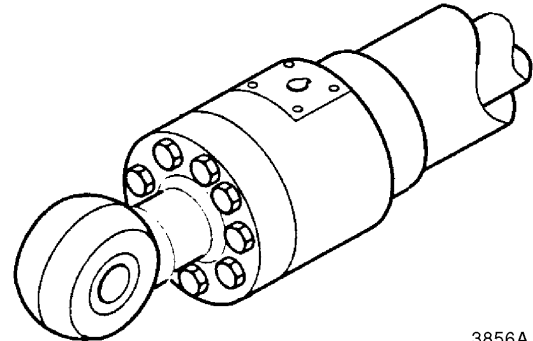

Figure 37
22. Install bolts in cylinder head and tighten them to torque specified in bolt torque chart. See Figure 37. Double check to make sure that hole in cylinder head is align with port in cylinder tube.